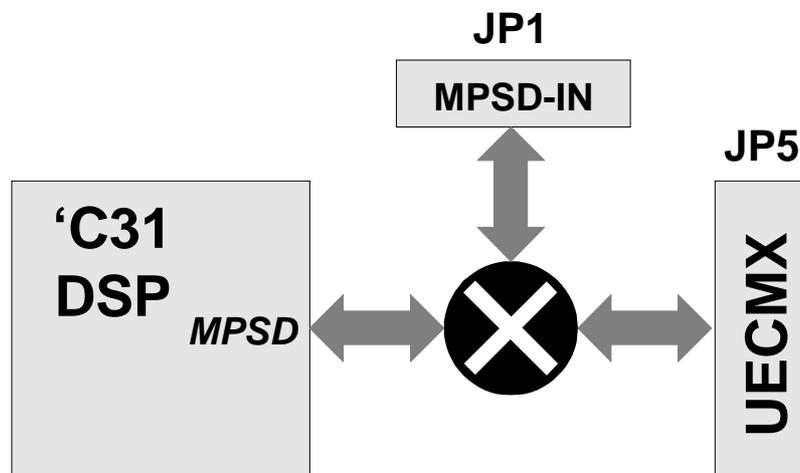

Fig. 2-15. On-board MPSD emulation path of *TORNADO-31/31Z*.
*TORNADO-31/31Z* on-board MPSD path is presented at figure 2-15 and comprises of TMS320C3x MPSD emulator port, emulator multiplexer (E-MUX), MPSD-IN connector (JP1) and dedicated site for *UECMX* emulator DCM (JP5).